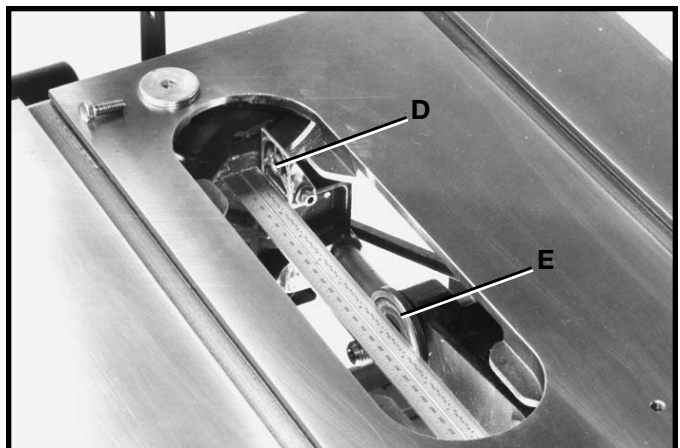

Fig. 30
4. Using a straight edge, check to see if the top and bottom of the inside splitter bracket (D) Fig. 30, is aligned with the inner arbor flange (E), as shown.